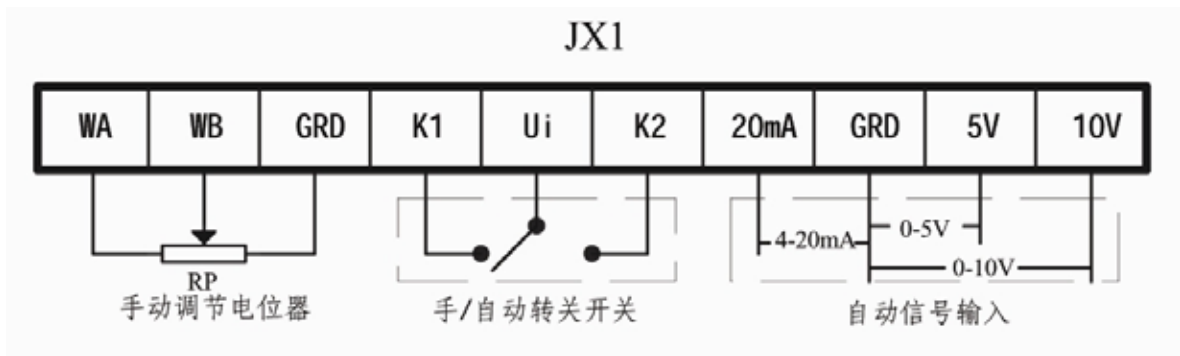

Fig 7
4.2 Connect control signal line and manual/auto shift line.See Fig 7